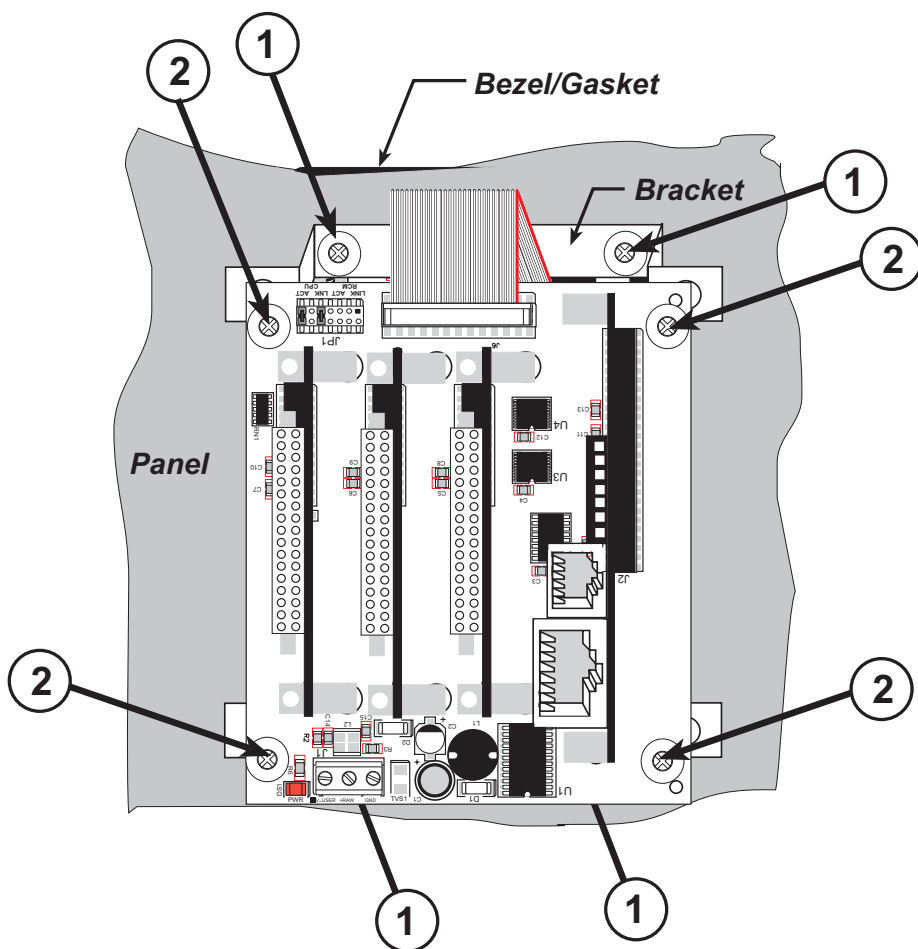

Figure B-10. Install Smart Star Backplane Behind LCD/Keypad Module
2. Use brackets to secure the LCD/keypad module to the panel using the four 4-40 screws and washers included with the LCD/keypad module. The four screw positions are indicated with the number 1 in Figure B-10. If your panel is thick, use a 4-40 screw that is approximately 3/16" (5 mm) longer than the thickness of the panel.
3. Use a ribbon cable to connect header J6 on the backplane to header J1 on the LCD/keypad module. Note the pin 1 positions reflected by the red-colored line in the ribbon cable shown in Figure B-10.
4. Secure the Smart Star backplane using four 4-40 × ½" or 6-32 × ½" screws at the screw positions indicated with the number 2 in Figure B-10.